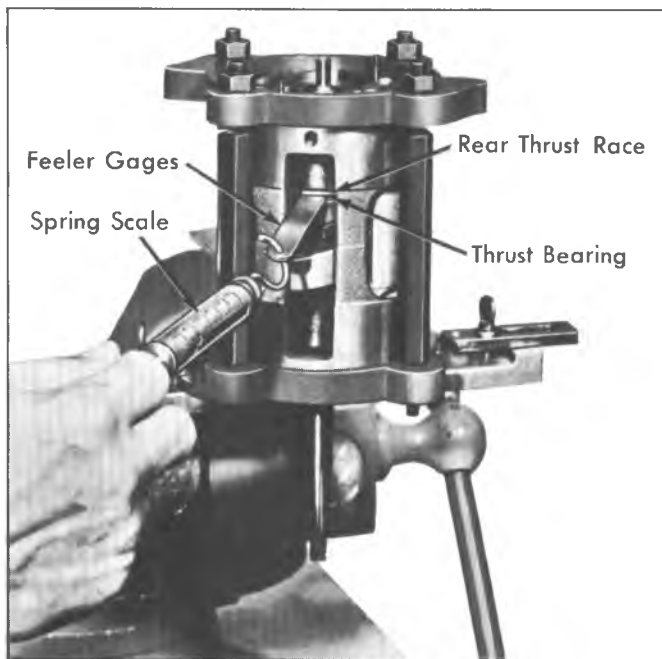

Fig. 24--Checking Clearance Between Rear Thrust Bearing and Outer Thrust Race
14. The next gauging operation is to determine the space between the **REAR** thrust bearing and the upper (outer) rear thrust race. Use a suitable combination of feeler gauge leaves so that 4 to 8 oz. of force is required to pull gauge free (fig. 24). Select a numbered thrust race to correspond to this feeler gauge reading and place this race in parts tray in the rear thrust race compartment.